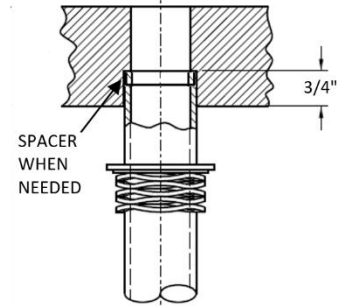

Figure 5: Spacer (11) location
- 6.5. If a Spacer (11) is specified for your configuration, insert it into the tank car fittings flange's 3/4" deep socket so that it is between the flange and the Guide Tube (3). See Figure 5.